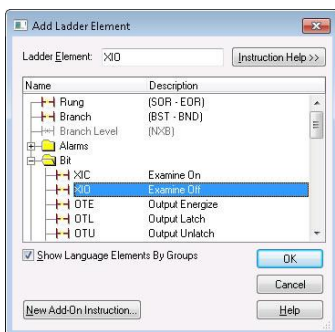

Figure 29: Adding an XIO Element
- Select the "XIO" element in the Bit folder. Refer to Figure 29.